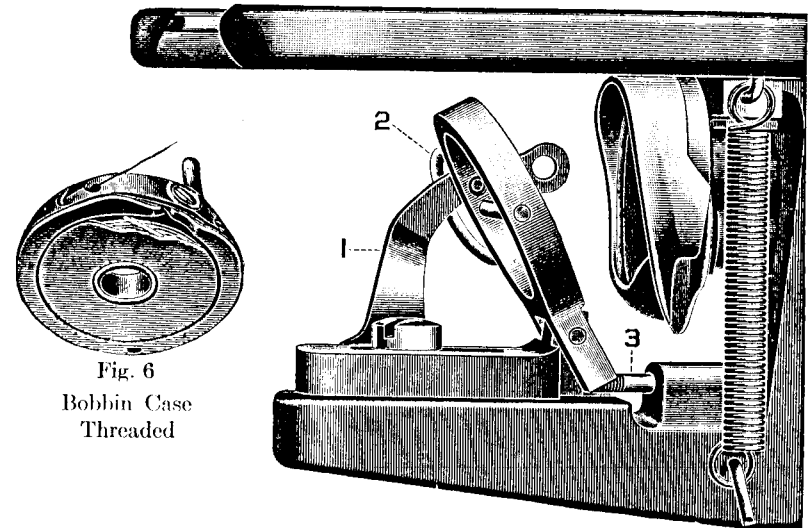

Fig. 6
**To Thread the Bobbin Case.** Place the bobbin within the bobbin case so that the thread will draw in the direction indicated in the above cut, then draw the thread into the slot in the edge of the bobbin case and under the tension spring until out through the delivery eye as shown in Fig. 6.